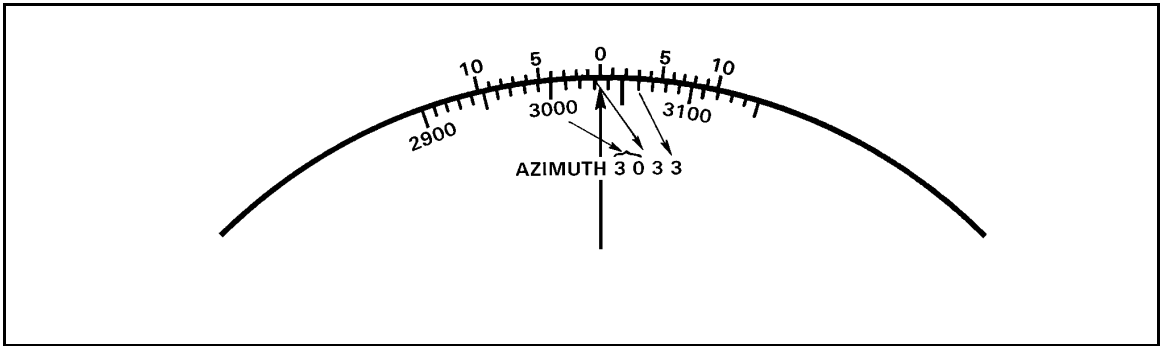

Figure 11-3. The vernier scale.
a. To determine azimuths, read the first three numbers from the azimuth disk, left of the index mark. Read the fourth number, or the last mil, by using the azimuth disk and the right side of the vernier scale (Figure 11-3).
b. For example, consider the azimuth 3033 in Figure 11-3. The first and second numbers are the first 100-mil indicator to the left of the index mark (30). To obtain the third number, count the 10-mil graduations between the 100-mil indicator and the index mark (3). The fourth number, or last mil, is read by counting the 1-mil graduations from 0 to the right on the vernier scale until one of the 1-mil graduations align with one of the 10-mil graduations on the azimuth disk (3).